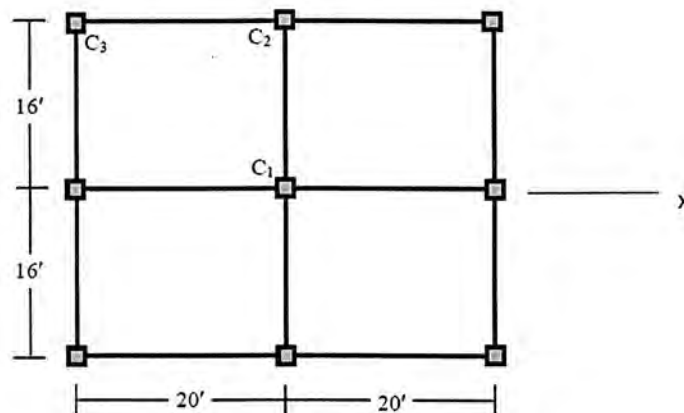

Fig: 4
4. Figure 4 shows the plan of a 6-storied RC structure, with 5" thick slabs and 12" × 18" beams and 5" thick partition walls along all column lines. Floor loads also include working FF = 30 psf, RW = 50 psf, LL = 40 psf.